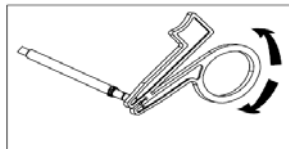

Figure 1. Fixation tool attached to terminal pin.
1. Attach the fixation tool to the terminal pin of the lead. Squeeze the handles together and place the pin in the preformed groove. Release the tension on the handles to secure the terminal pin in the fixation tool (Figure 1).
1. Attach the fixation tool to the terminal pin (Figure 1).